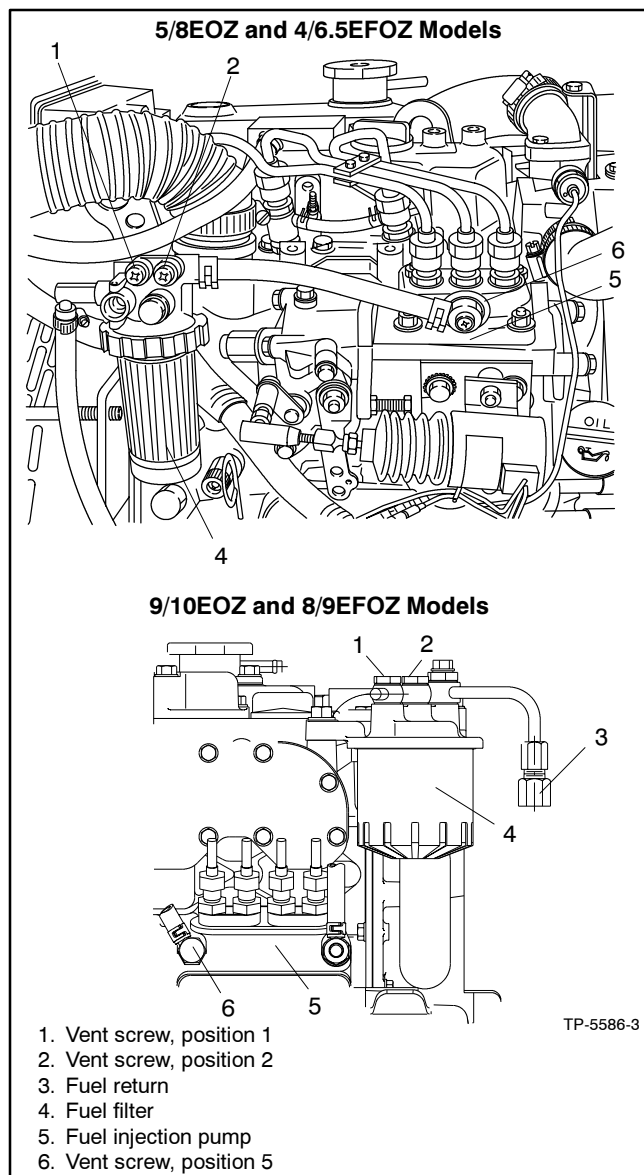

Figure 4-4 Fuel System Bleed Points, Typical
1. Loosen the fuel filter screw at position 1. See Figure 4-4.